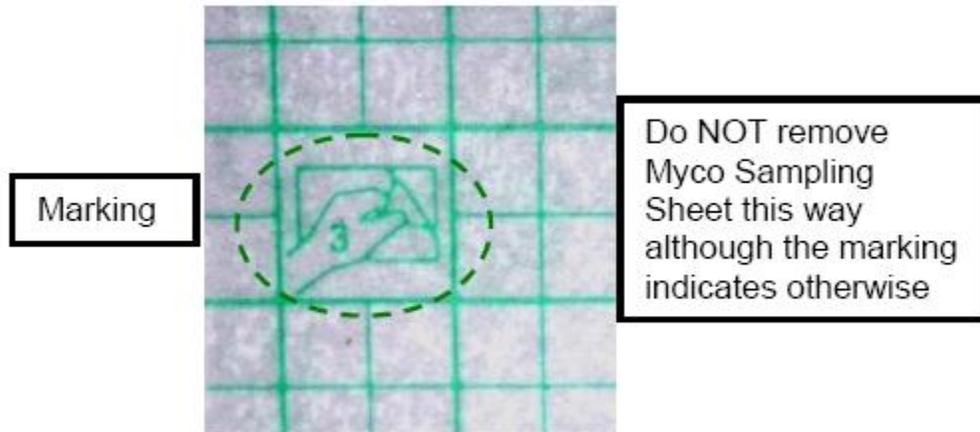

Figure 6. The marking on Myco Sampling Sheet
Removing Myco Sampling Sheet in the direction the marking indicates will separate the upper layer with the grid from the adhesive layer. Refer to Figures 6.
- 2.5 Hold Myco Sampling Sheet's edge that is attached to the backing paper labeled 2 and remove Myco Sampling Sheet from the skin as shown in Figure 5. (Do not remove it in the direction depicted on the backing, shown in Figure 6)